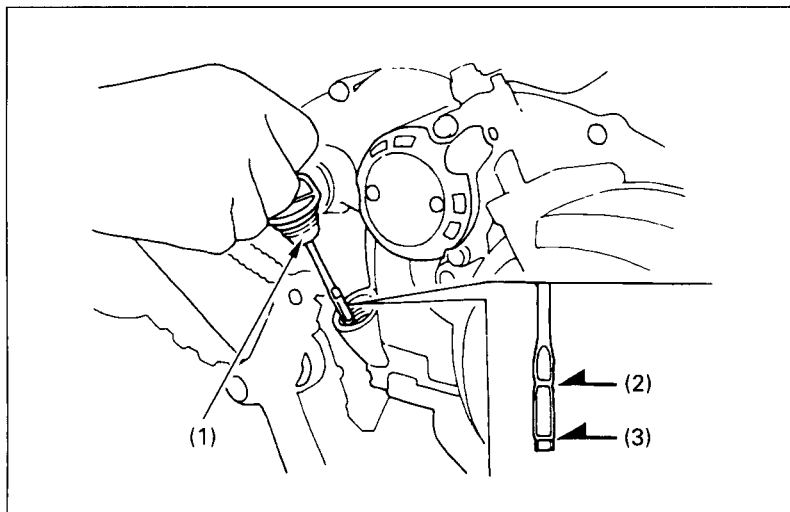

Fig. 2-24 (1) Oil filler cap/dipstick (2) Upper level mark
The oil filler cap/dipstick (Fig. 2-24), on the right crankcase cover, is used to measure the oil level. The oil should be checked each day before operating the FOURTRAX and maintained between the upper level mark (2) and the lower level mark (3).